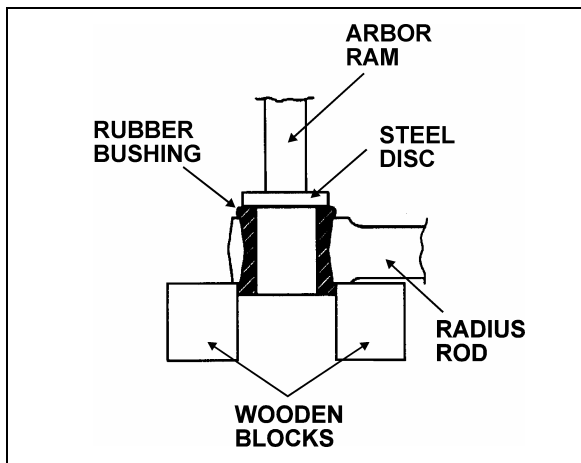

FIGURE 43: RADIUS ROD BUSHING REMOVAL
1. Safely support the radius rod as shown in figure 43.
2. Place a flat steel disc, slightly smaller than the outside diameter of the bushing (Fig. 43).